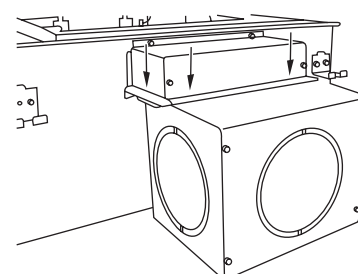

Fig.4.
- (4) Connect the external air intake ducting to the flange firmly using the four supplied 4x10 PTT screws (see Fig.4).